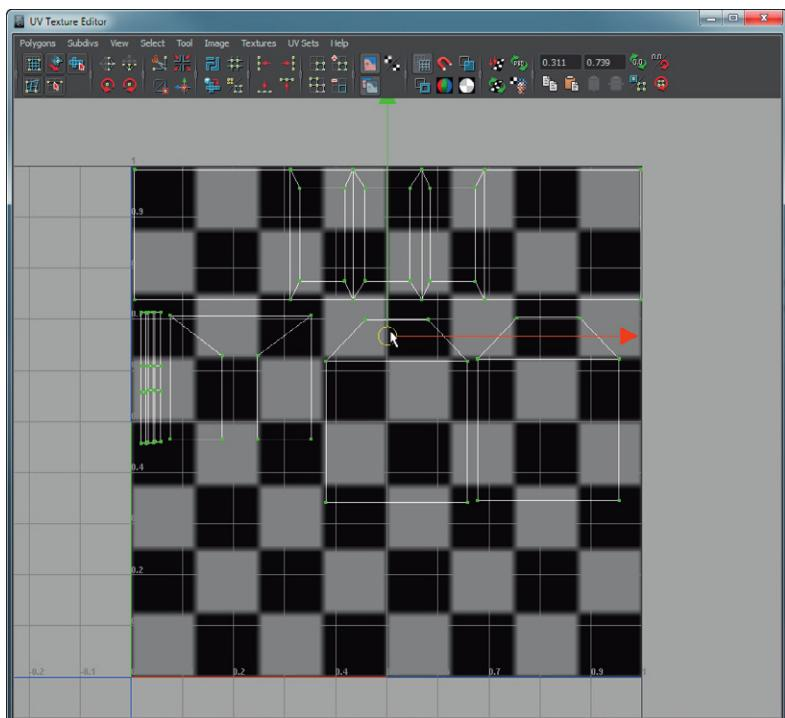

FIG 5.20 Scaled and positioned UV shells.
Step 20: Scale and move all the UV shells, so that they fit within the top right quadrant. In the UV Texture Editor, marquee select *all* the UVs. Scale them to fit inside the top right quadrant (the one with the checkers). Our biggest shell is the shell that includes the windowed walls, so use that as a guide. Move the shells, so that they fit within the quadrant (Fig. 5.20).